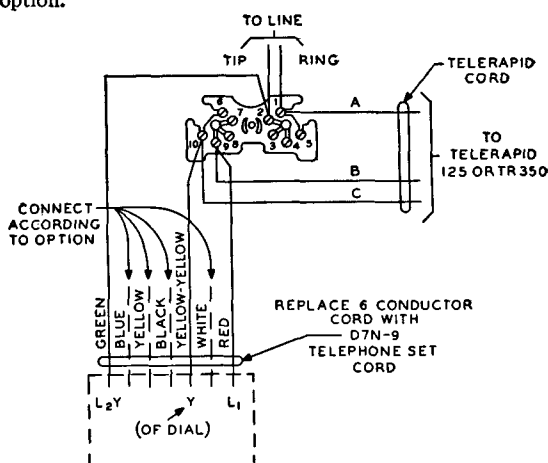

Fig. 10—Telerapid 125 or TR350 for 410B Telephone Set
4.03 Figs. 10 and 11 show connections which can be made using 410- and 510-type telephone sets with any wiring option.